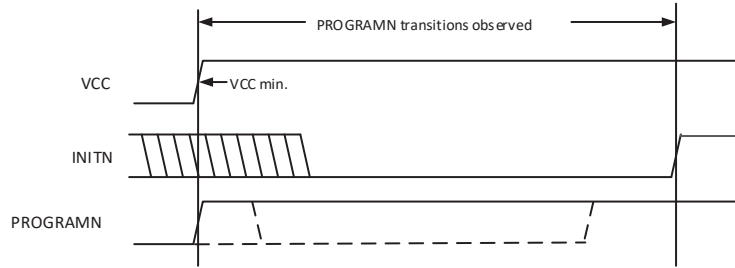

Figure 5.5. Period PROGRAMN is Always Observed
- PROGRAMN is active during power-up, even when PROGRAMN has been reserved as a general purpose I/O. Do not allow any input signal attached to PROGRAMN to transition from high to low at a frequency greater than the VCC (min) to INITN rising edge time. High to low PROGRAMN assertions more frequently prevent the MachXO2 from configuring, causing the FPGA to remain in a continuous RESET condition. See Figure 5.5.